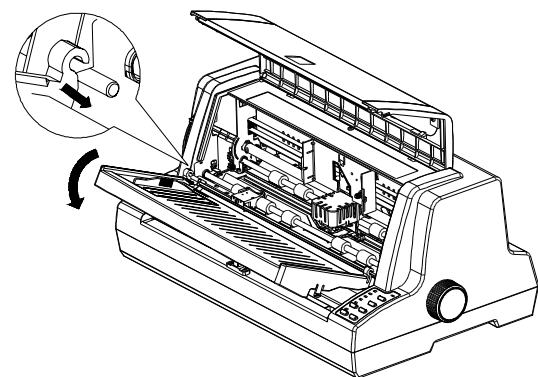

Figure 4
- ◆ According to the Figure 4, set the sheet holder to the correct position by locking its plastic hooks to the fixing pins.